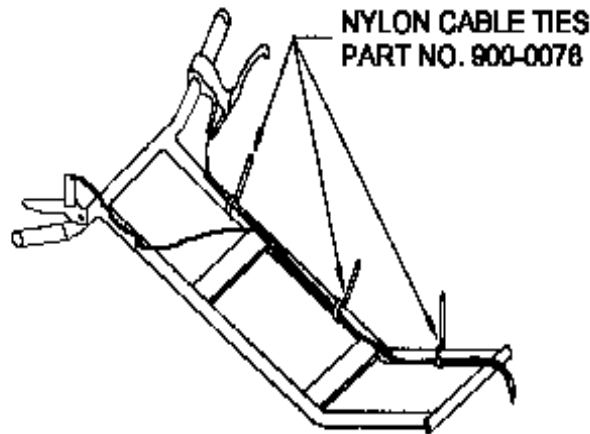

fig. 2
1. Four cable ties have been provided for fastening the cables to the handlebar after it has been installed. Refer to figure 2 for the correct mounting points of the cable ties.
3. With the handle in the rear position, opposite the cutter head, install the other cable ties at points 2, 3 and 4 (fig. 2).